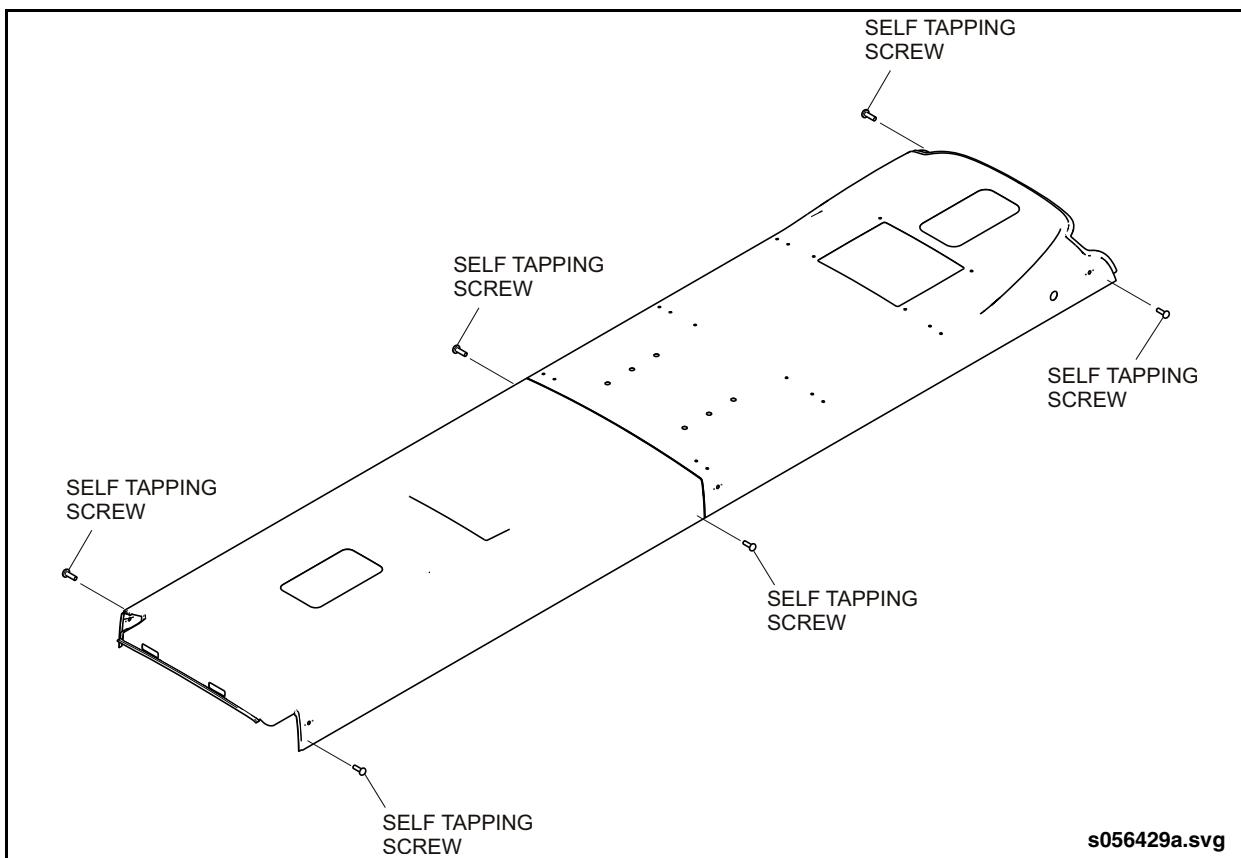

Fig. 13-6: Roof Panel Installation
1. Ensure that exterior pier panels, roof insulation, and antenna ground planes are installed. Install cork spacers to vehicles with roof top studs. See "Fig. 13-6: Roof Panel Installation" on page 22.
25. After all roof panels are installed, insert screws as shown. *See "Fig. 13-6: Roof Panel Installation" on page 22.*